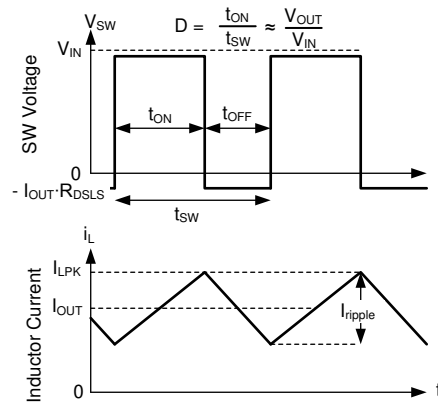

图 8-14. SW Voltage and Inductor Current Waveforms in Continuous Conduction Mode (CCM)
The following operating description of the LMR36506 refers to 节 8.2 and to the waveforms in 图 8-14. In CCM, the LMR36506 supplies a regulated output voltage by turning on the internal high-side (HS) and low-side (LS) switches with varying duty cycle (D). During the HS switch on-time, the SW pin voltage,  $V_{SW}$ , swings up to approximately  $V_{IN}$ , and the inductor current,  $i_L$ , increases with a linear slope. The HS switch is turned off by the control logic. During the HS switch off-time,  $t_{OFF}$ , the LS switch is turned on. Inductor current discharges through the LS switch, which forces the  $V_{SW}$  to swing below ground by the voltage drop across the LS switch. The converter loop adjusts the duty cycle to maintain a constant output voltage. D is defined by the on-time of the HS switch over the switching period: